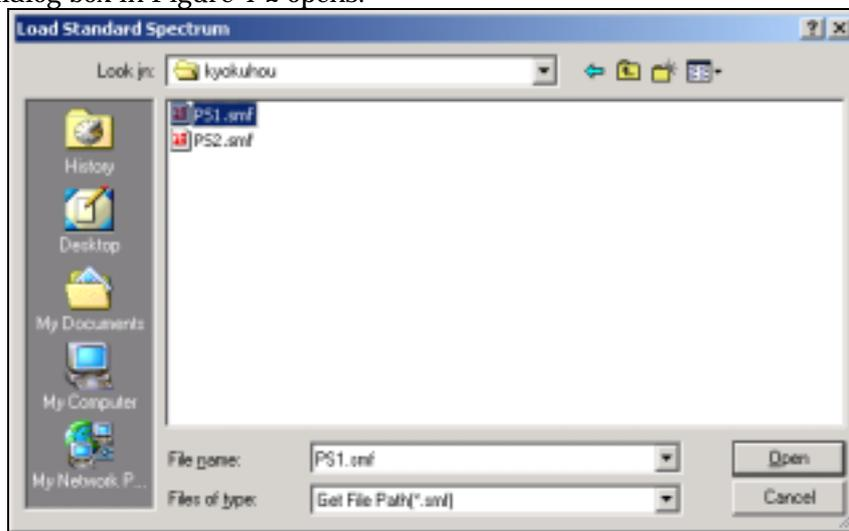

Figure 4-2. "Load Standard Spectrum" dialog box
- The dialog box in Figure 4-2 opens.